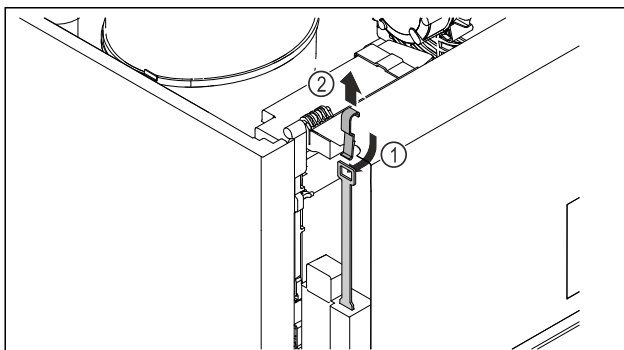

Fig. 244
- ▶ Insert the emergency release key from above Fig. 244 (1), hook it onto the lock and pull it upwards Fig. 244 (2).